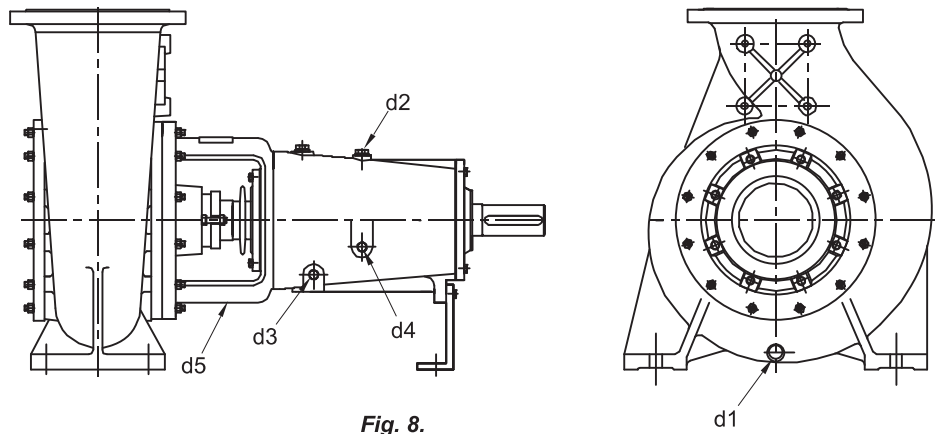

Fig. 8.
- Every pump is fitted with connections on the pump casing to drain the pump and on the bearing bracket to evacuate the seal leakage from the stuffing box (Fig. 8). If required the pump drain and seal leakage can be piped to a suitable reservoir. The pump draining piping must be fitted with an isolating valve and both must be suitable for the maximum operating pressure of the pump.
- Cooling, sealing and flushing of seal piping must be connected only to the designated connections located on the pump (See Fig. 8 to 12).